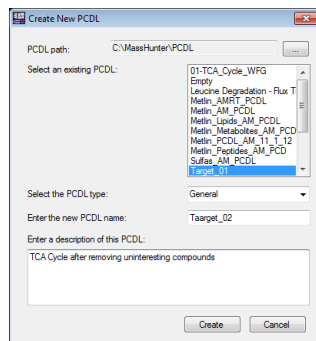

Figure 24 Create New PCDL dialog box
- e Click **Create** to make a copy of the compound database (Figure 24 on page 28).